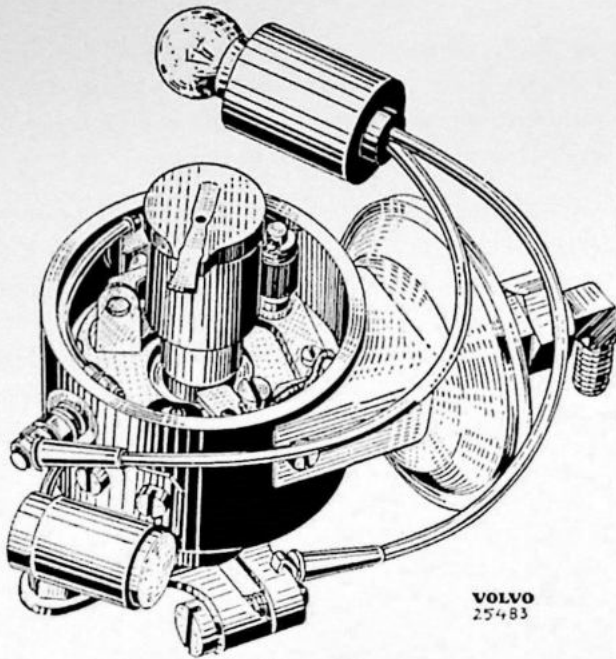

Fig. 80.
4. Remove screw under distributor and rotate distributor clockwise until breaker contacts close. Connect a test lamp of max. 3 watts as shown in Fig. 80 and turn on the ignition.